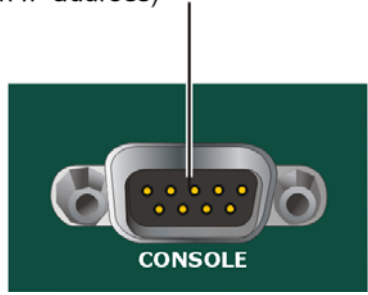

Figure 2-2 Management Port to Management Terminal Connection
1. Use a null modem cable to connect a VT100 terminal or any standard PC running terminal emulation software to the RS-232 serial port (Figure 2-2) on the SAN Router.
1. Connect the standard RJ45 Cat 5 Ethernet cable from the LAN to the 10/100 management port (RJ45). See Figure 2-2, on page 2-8.